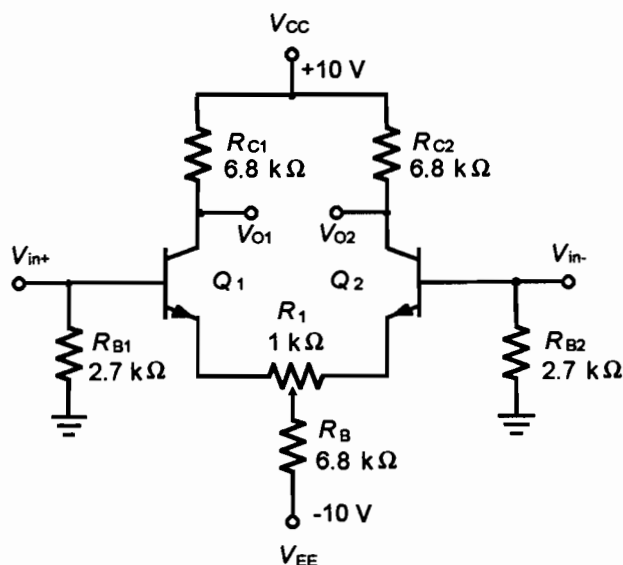

Figure 42.1
- Construct the circuit of Figure 42.1. Do not apply DC power to the circuit yet. Potentiometer  $R_1$  is used to balance the amplifier by compensating for component and transistor differences in each half of the amplifier. Set the potentiometer to its mid-scale value so that each transistor sees the same value of resistance. Connect a 100- $\Omega$  resistor in parallel with the 2.7-k- $\Omega$  base resistors (one for each base).
3. In the circuit of Figure 42.1, the base of each transistor is zero-referenced.
4. The theoretical differential gain of the circuit of Figure 42.1 is \_\_\_\_\_.
5. In the circuit of Figure 42.1, the input marked  $V_{in+}$  has the designation because a positive input signal causes the collector of  $Q_1$  to be positive.